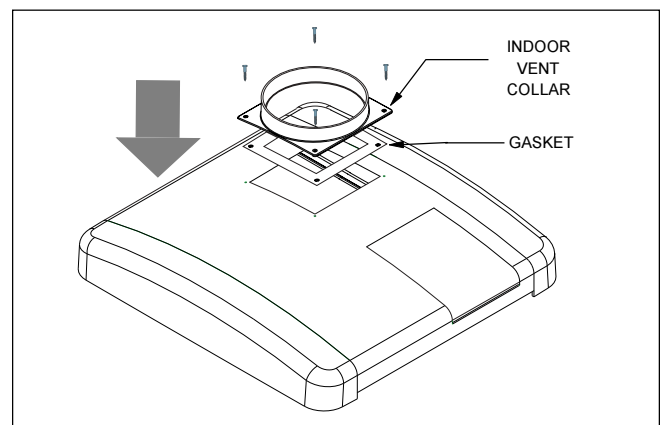

Figure 5. Vent Collar Assembly for Indoor and Outdoor Shelter Installation.
2. Replace the grill with the vent collar. Place the vent collar and gasket over the hole and fasten it in place with the 4 screws provided. Be sure that all components are properly aligned (See Figure 5).